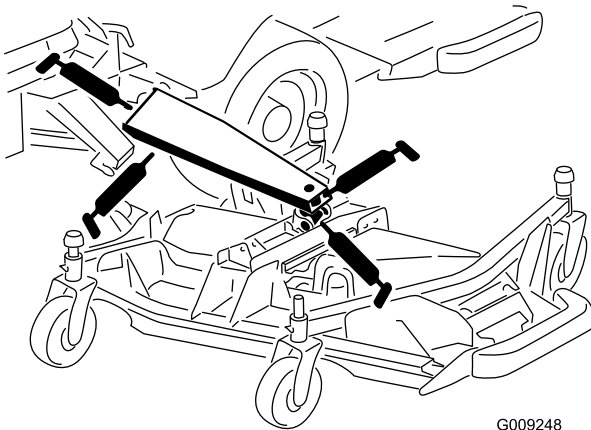

Figure 56
- Main lift arm bushings (3) (Figure 56)
- Lift cylinder bushings (1) (Figure 56)